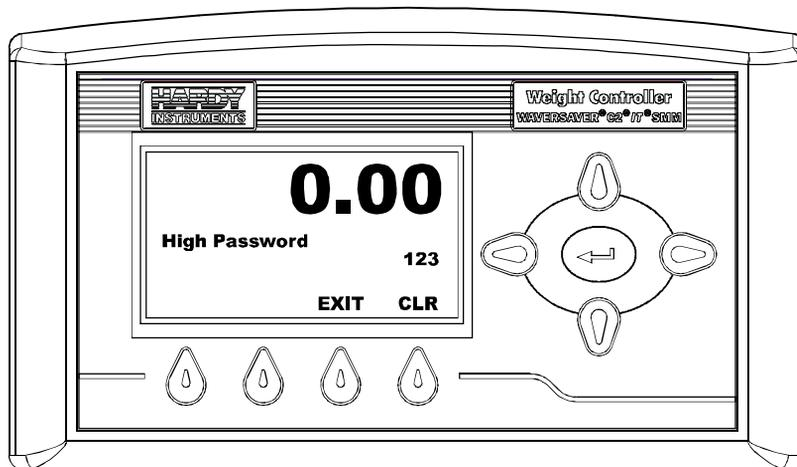

FIG. 280 ENTERING “123” FOR HIGH PASSWORD
- Step 5. Use the Up or Down arrows to enter the value. In our example we entered "123". (See Fig. 280)